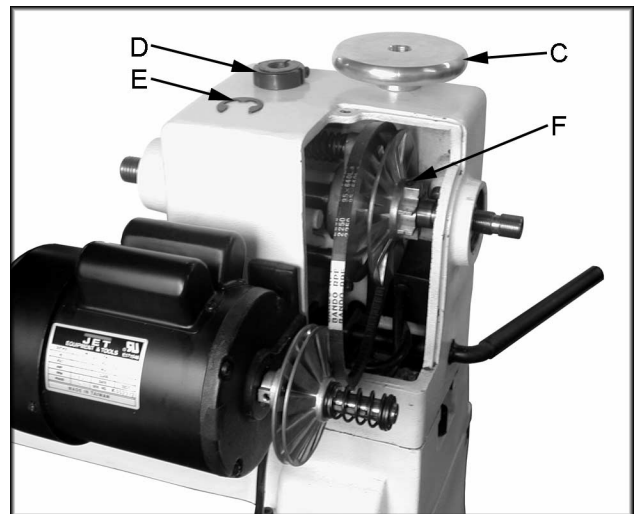

Fig. 24
2. Remove the belt cover, and remove the belt from the lower pulley, see Figure 24.
3. Loosen the two setscrews in the handwheel enough to unthread the handwheel (C, Fig. 24).
4. Loosen the socket head cap screw enough to unthread the clamping nut (D, Fig. 24).
5. Remove one e-ring (E, Fig. 24) from spindle.
6. Loosen the two setscrews in the right hand pulley (F, Fig. 24).